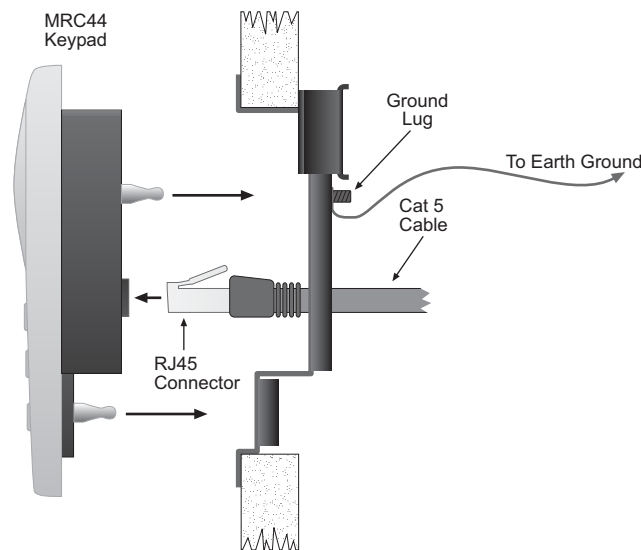

Figure 6 - Mounting and Installing the MRC88m Keypad
- Orient the Mounting Bracket so the ground lug is on the top portion of the bracket and run the supplied screws through the top front of the mounting bracket into the back-bar as shown in **Figure 6**.
5. Firmly snap the MRC88m Keypad into the bracket that you have just installed (see **Figure 6**).